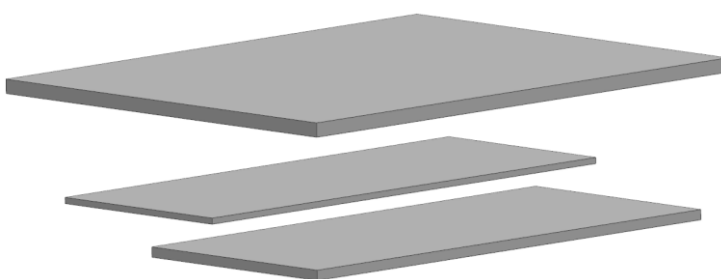

Figure 3-7: The 3D CAD model of the Platform Outline View – Concept (DG 7602-01) for a 7X82-2.0 engine
2. Data is available in 3D CAD format (see Figure 3-7)